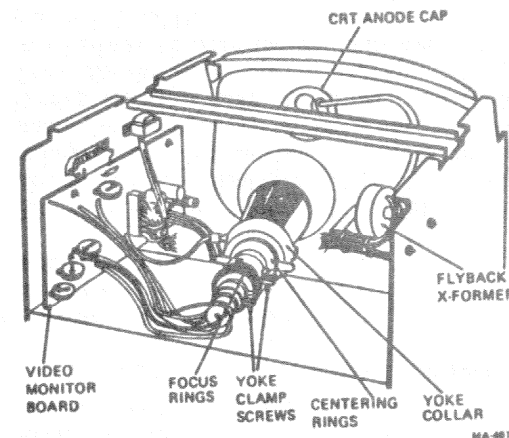

Figure 4-6 Elston/DIGITAL Monitor CRT Adjustments
2. Loosen the yoke collar clamp screw (Figure 4-6) and turn the yoke until the four sides of the screen display are parallel to the red shaded area of the alignment template.